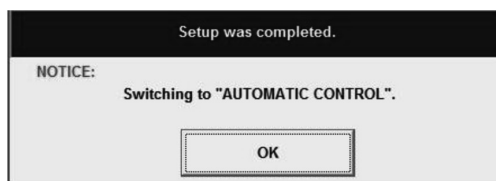

Fig.27
- ⑥ At a message box as shown in fig. 27, clicking on "OK" button completes the setup.